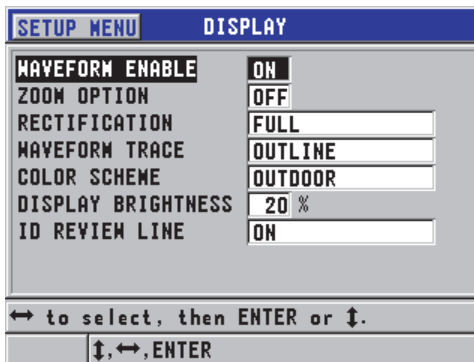

Figure 4-4 The DISPLAY screen
2. In the **DISPLAY** screen (see Figure 4-4 on page 48), select the desired parameter and value for the following parameters:
- In the **DISPLAY** screen (see Figure 4-4 on page 48), set the **COLOR SCHEME** to **INDOOR** or **OUTDOOR**.
2. In the **DISPLAY** screen (see Figure 4-4 on page 48), set the **DISPLAY BRIGHTNESS** to the desired percentage level.